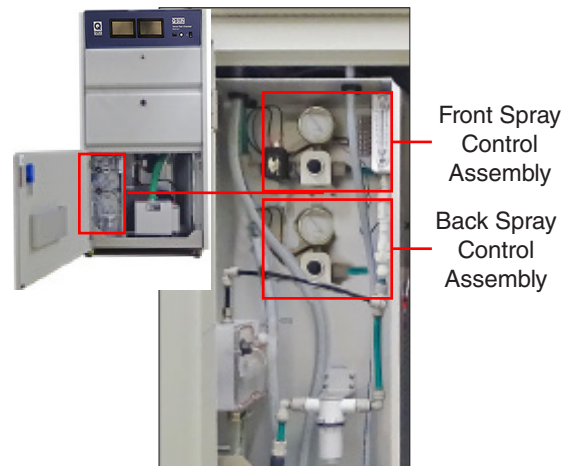

Figure 9.2b: The Back Spray control assembly is located in the plumbing box below the Front Spray controls.
- The Back Spray control system is located in the plumbing box (Figure 9.2b).